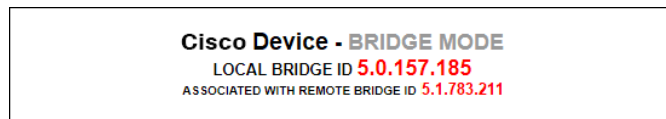

Figure 41. Configurator interface (Unit ID information)
- The unit ID number of the local unit is shown as the **LOCAL BRIDGE ID** (Figure 41 (page 112)).